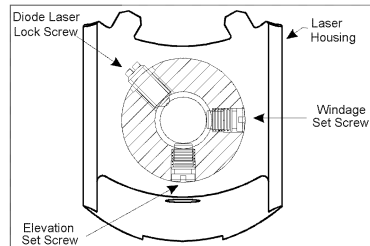

Figure 3
Elevation: Turning the elevation screw clockwise will move the laser pointer up, and turning it counter-clockwise will move it down. See Figure 3 above.
Step 5. In order to adjust the windage and elevation you must first loosen the Laser Lock Screw with the small screwdriver included with your laser, by turning it counter-clockwise. Once the Laser Lock has been released, adjust the windage or elevation, turning the windage screw by no more than one-quarter (1/4) turn. See Figure 3 on the next page.